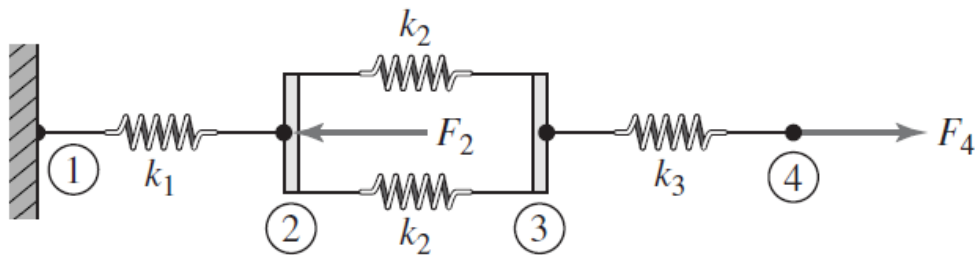

Figure Q2
- (i) Derive the stiffness matrix for the system of linear springs in Figure Q2.